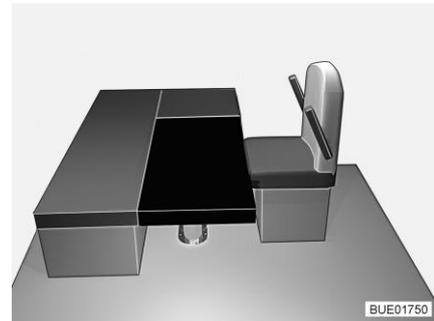

Fig. 159 After conversion
- Place the rectangular additional cushion on the table (in front of the seat cushions of the bench, see Fig. 159).